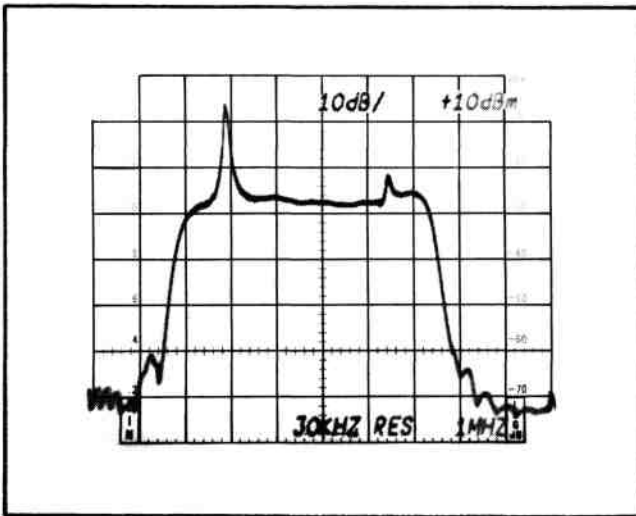

Fig. 2-8. In-service low level sideband
4. By using the video filters on the spectrum analyzer it should be possible to obtain a display similar to Fig. 2-8.